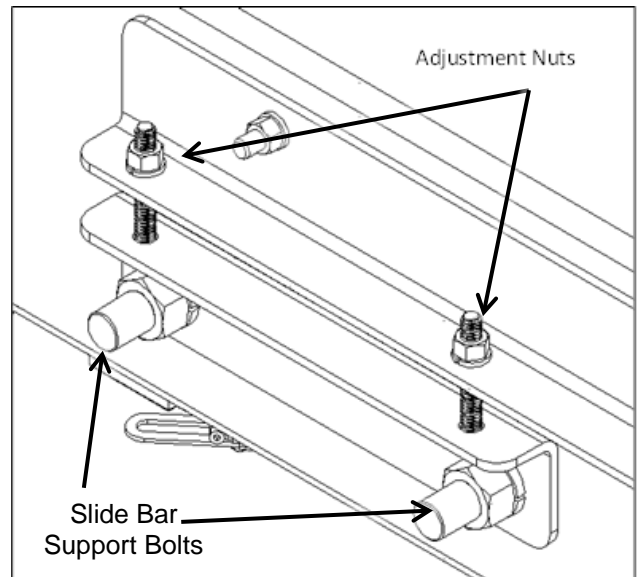

Figure 1: Hopper Adjustment
1. To adjust the hopper, first loosen slide bar support bolts (**Figure 1**).
2. Tighten the adjustment nuts (**Figure 1**). Be sure to tighten each nut evenly, failure to do so could result in twisting of the hopper, which may result in poor sealing or binding of the hopper.